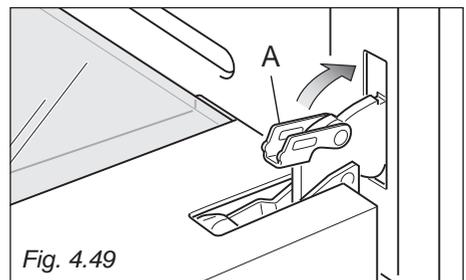

Fig. 4.49
4. Unlock the oven door by opening it completely and closing the lever "A" on the left and right hinges (fig. 4.49).